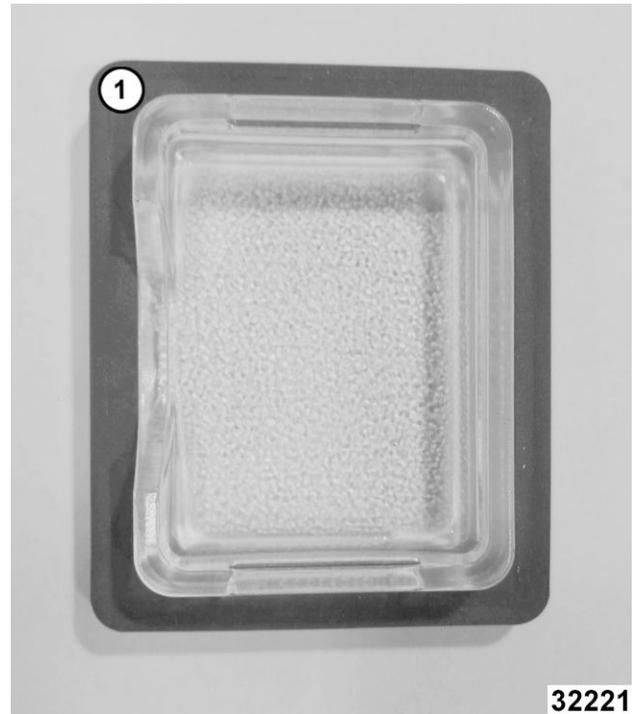

Fig. 49
**NOTE:** Verify gasket (1, Fig. 49) is flat on lamp cover and not damaged.